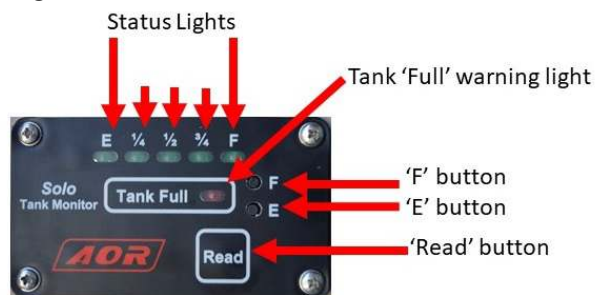

Fig.1 - Black Tank Gauge
1. The AOR vans fitted with the marine macerator units are fitted with a SCAD Technologies LLC Solo Tank Monitor and External Foil Sensor Tank Display as per Figure 1 below.